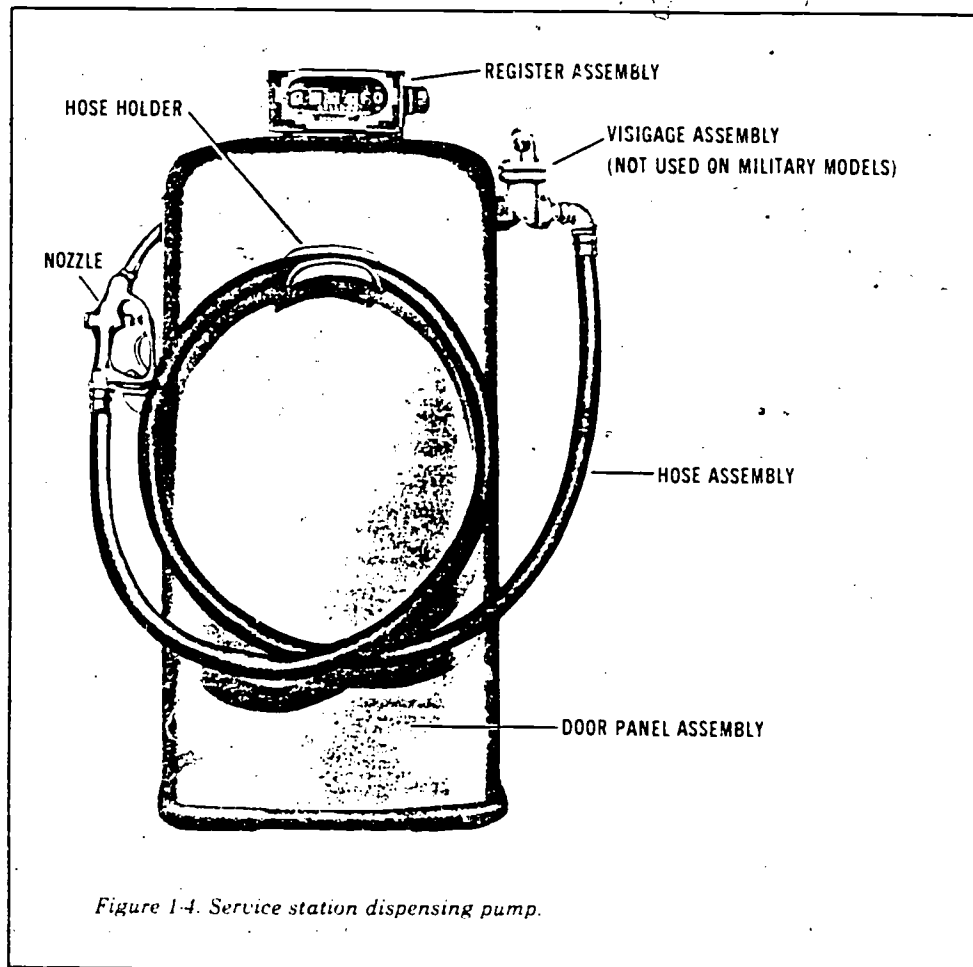

Figure 1-4. Service station dispensing pump.
■ **Description.** The service station pump (fig 1-4) consists of an electrically operated pumping unit mounted on a steel frame and inclosed by sheet-steel panels.